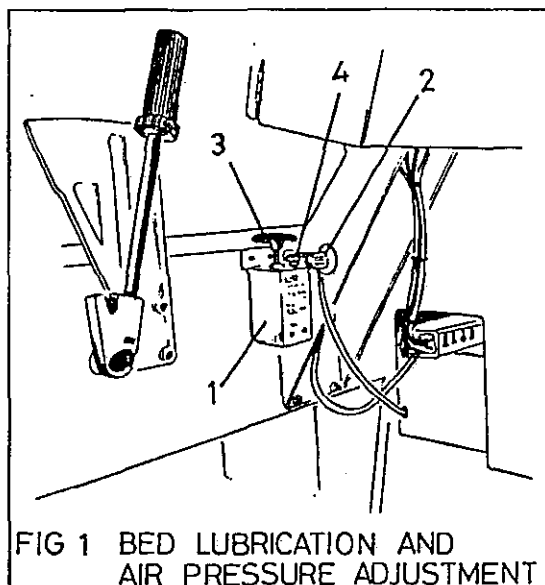

FIG 1 BED LUBRICATION AND AIR PRESSURE ADJUSTMENT
**Lubrication and Cleaning (Fig 1, Fig 2, Fig 3, Fig 4)**